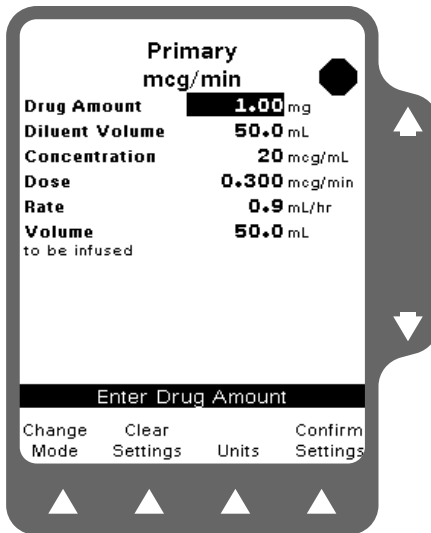

Figure 5-22 Clear Settings
3. If new values for the dose program are to be entered, press the **Clear Settings** soft key and enter new values using the procedure described earlier (Figure 5-22).